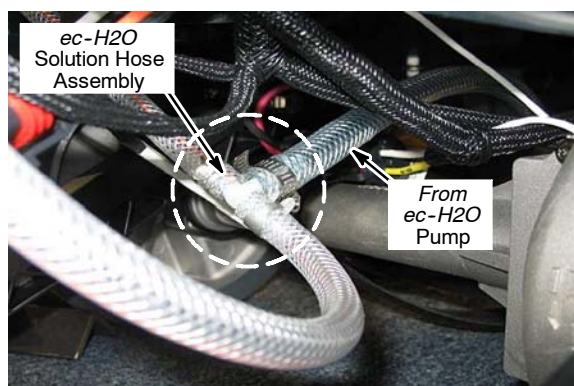

Fig. 43
12. Using a wormdrive clamp [p/n 54333], connect the *ec-H2O* pump hose to the *ec-H2O* solution hose assembly (from step 9) (Figure 43).